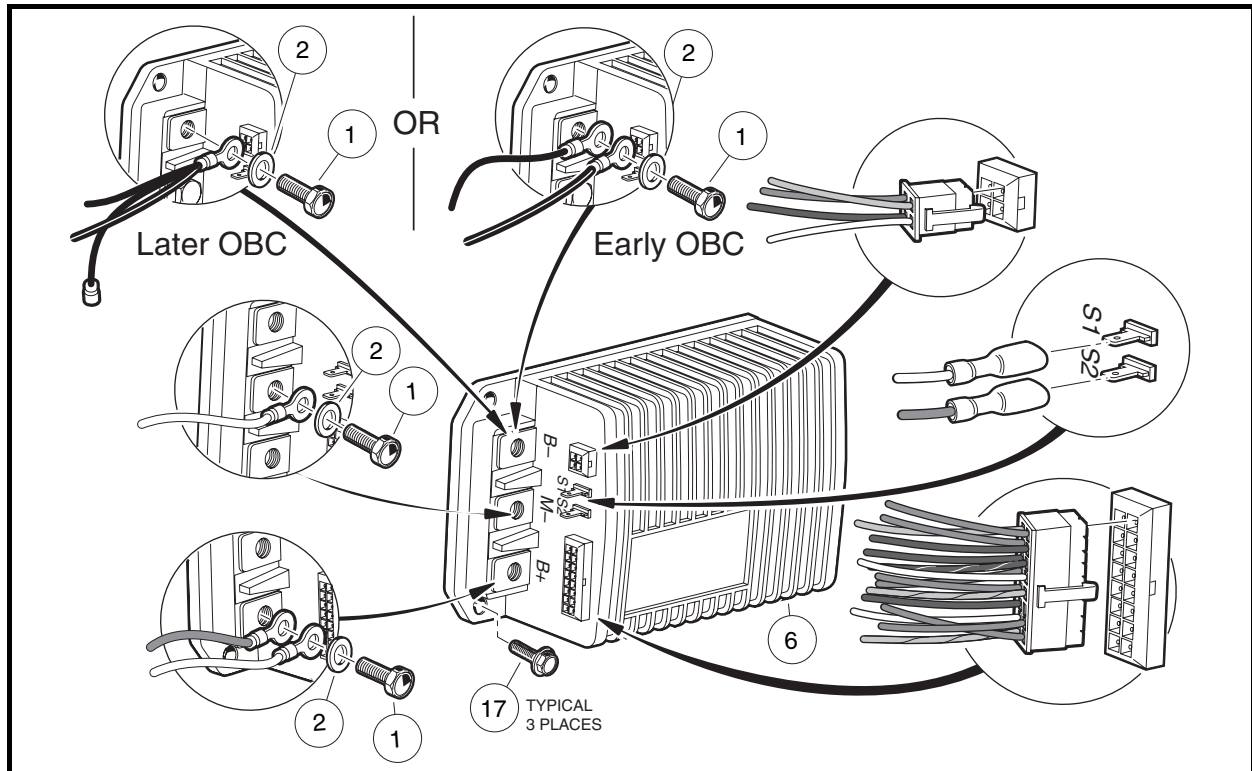

Figure 23-13 Speed Controller
4. Disconnect all wires and multi-pin connectors from the speed controller (**Figure 23-13, Page 23-14**).
5. Remove the three self-tapping screws (17) that hold the controller (6) to the component mounting plate and remove the controller from the vehicle.
1. Install the three self-tapping screws (17) that hold the controller (6) to the component mounting plate and tighten to 60 in-lb (6.8 N·m) (**Figure 23-13, Page 23-14**).
2. Using the wiring diagram, install the multi-pin connectors and all wires as illustrated. **See Wiring Diagram on page 21-2.** Tighten bolts (1) to 9 ft-lb (12.2 N·m) (**Figure 23-13, Page 23-14**).